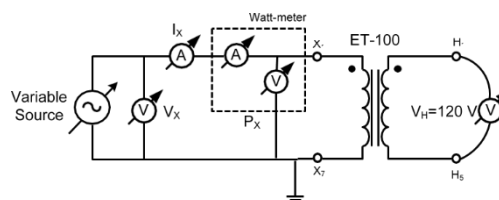

Fig. 6. The connections for the open-circuit test
- Before making any connections, make sure the power source is turned off and the voltage knob is turned to zero. Connect the transformer as in fig. 6 (for the OCT) or 7 (SCT), with the X side (primary side) connected to the variable source and the instruments shown in the figure.
- Connect the transformer as in fig. 6. Using a similar procedure as in experiment 2, perform the OCT at the rated primary voltage (60 V).